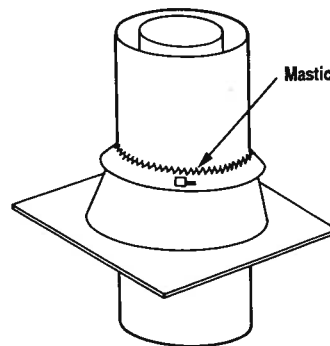

Figure 21
Step 8. The standard Superior roof flashing assemblies include a storm collar. Slide storm collar over outer chimney, align with top surface of flashing, insert tab in slot, pull tight and bend tab back over slot. Seal storm collar to outer chimney with roof caulking or mastic around entire circumference of pipe. Also add extra roof caulking where storm collar meets flashing and to the tab/slot area to seal completely against water penetration (Figure 21). Check all joints very carefully to ensure no water intrusion can take place.